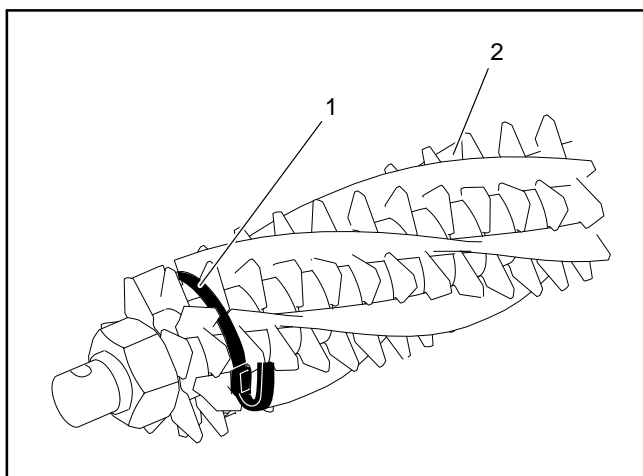

Figure 12
3. If groomer reel is equipped with broomer kit, remove straps and broomer brushes from reel (Fig. 12).
E. Cut off strap extension approximately 1/4" (6 mm) beyond retainer and fold the excess strap over the buckle (Fig. 12).